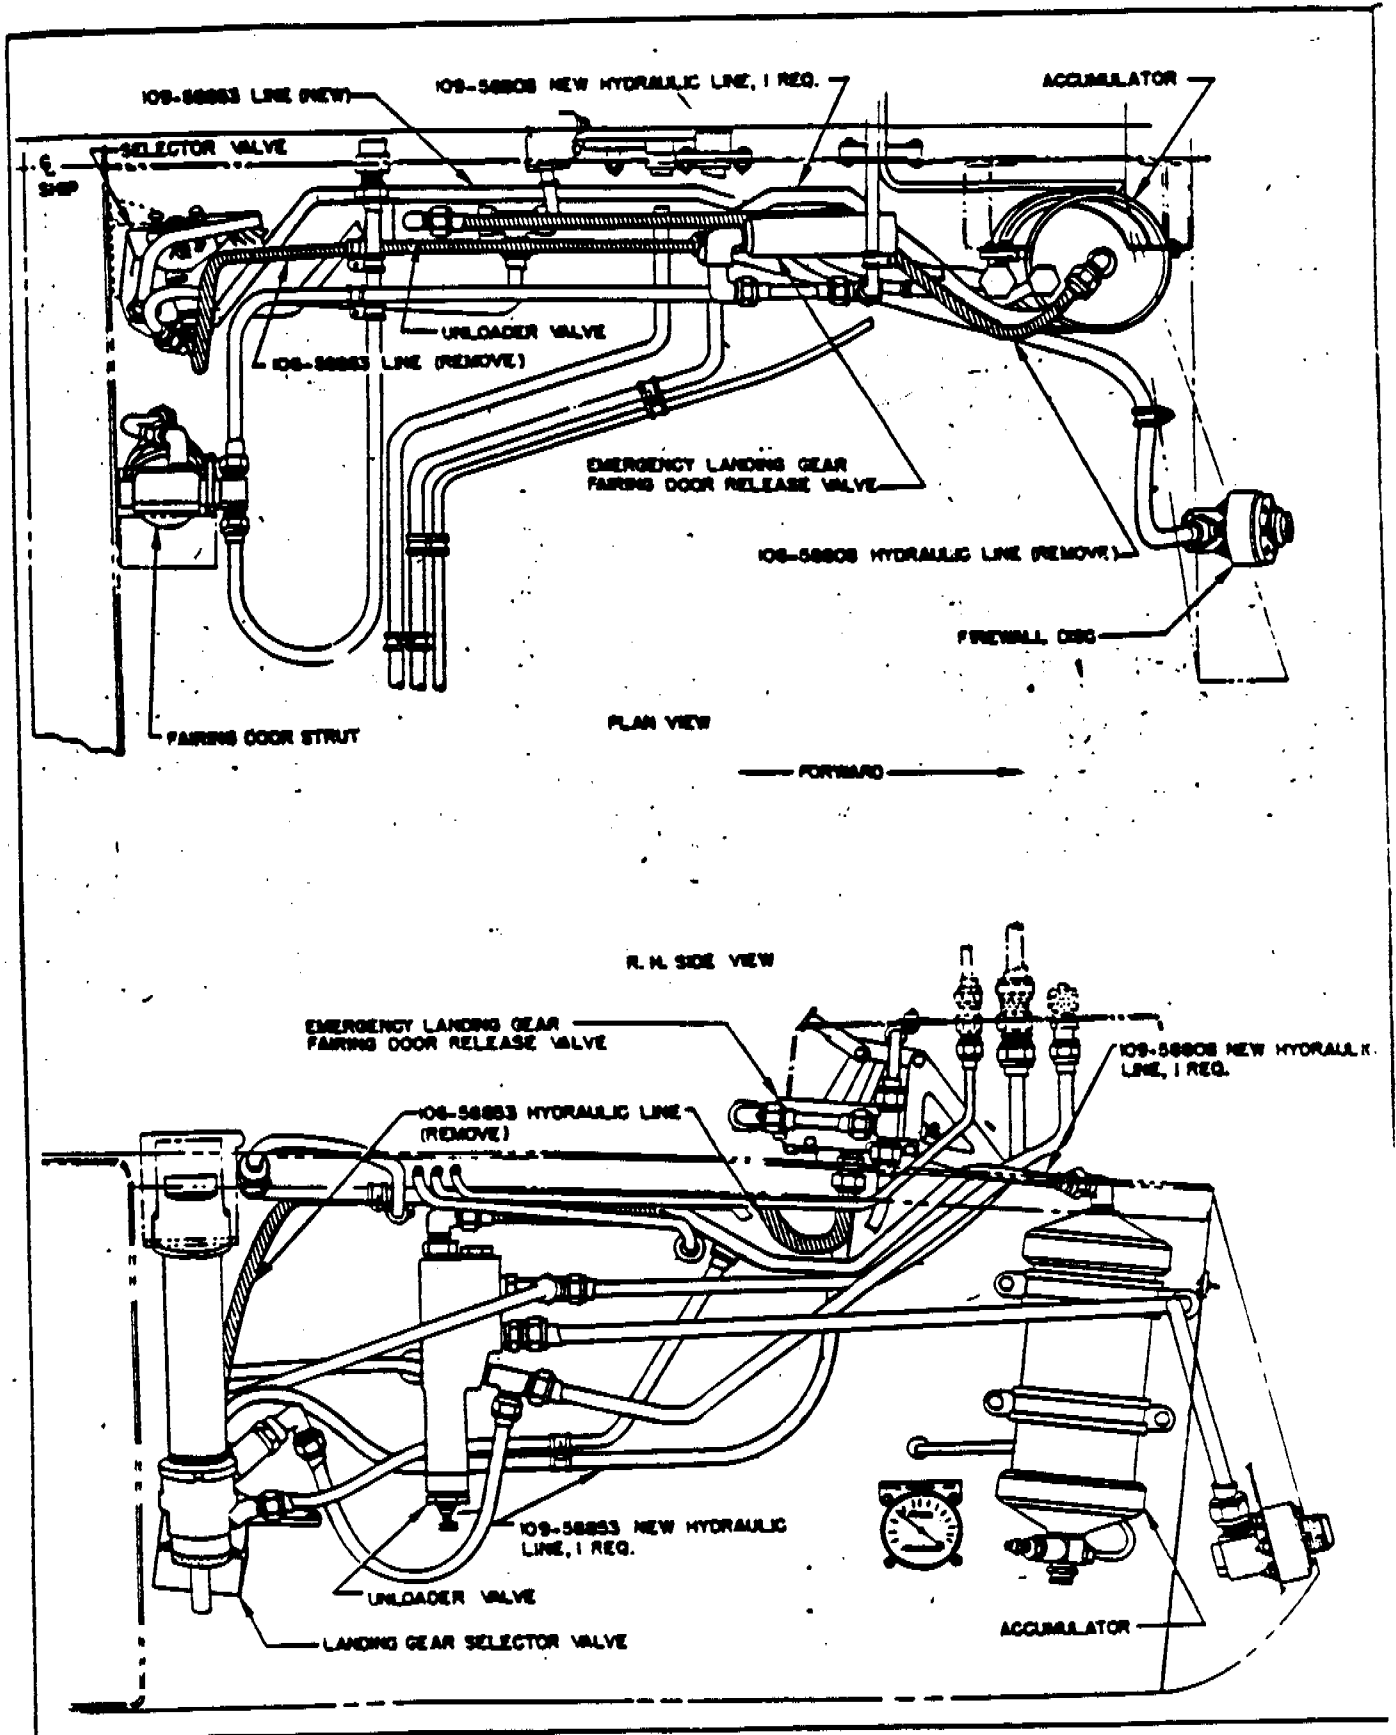

Figure 2 - Replacement of Hydraulic Lines
(1) Remove the line, part No. 106-58808, routed from the top of the hydraulic accumulator to top of unloader valve. (See figure 2.)
(2) Remove the line, part No. 106-58853, routed from the top port of the selector valve to the bottom port of the fairing door emergency release valve.
(3) Plug the open fittings to prevent excessive fluid loss.
(1) Remove plugs temporarily installed.
(2) Install the line, part No. 109-58808, by routing from the top of the hydraulic accumulator to the top of the unloader valve. (See figure 2.)
(3) Install the line, part No. 109-58853, by routing from the top port of the selector valve to the bottom port of the emergency fairing door release valve.